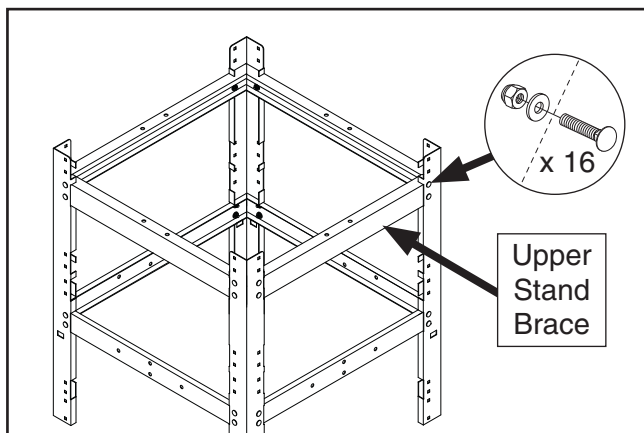

Figure 8. Upper braces attached to stand assembly.
4. Attach upper stand braces to top of assembly from **Step 3**, with (16) $\frac{5}{16}$ "-18 x $\frac{3}{4}$ " carriage bolts, $\frac{5}{16}$ " flat washers, and $\frac{5}{16}$ "-18 hex nuts (see **Figure 8**).